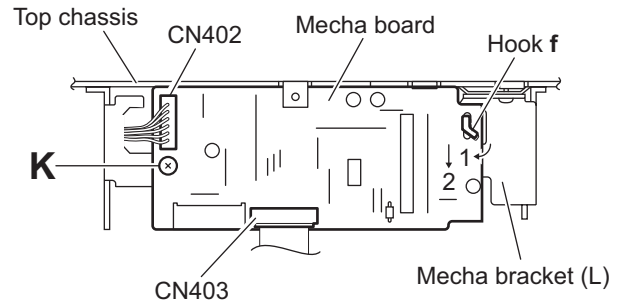

Fig.9
2.1.8 Removing the mecha board (See Fig.9)